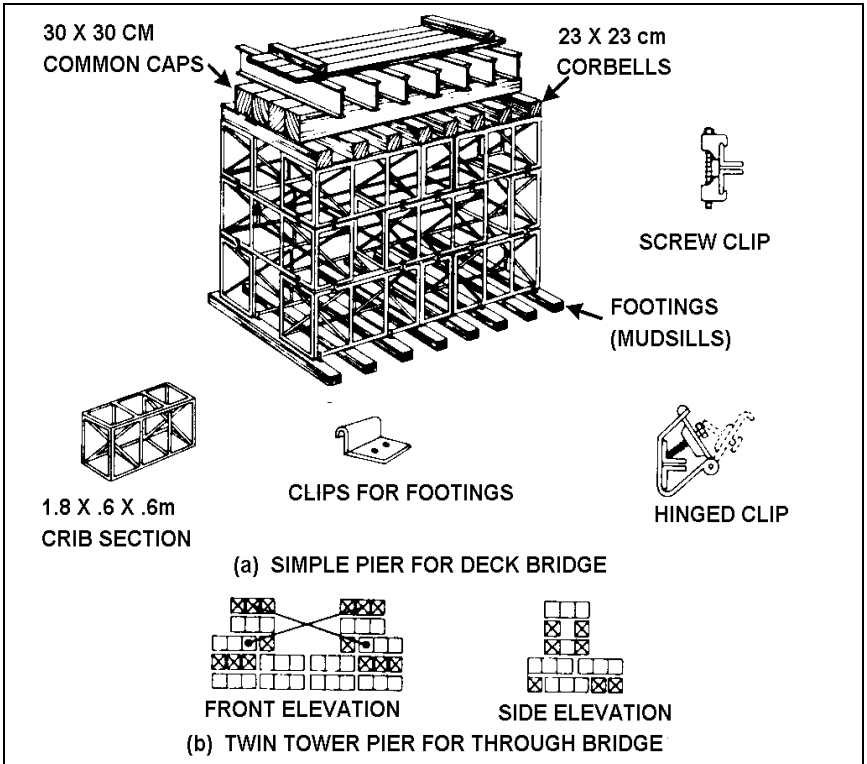

Fig 14-2-2 Piers of Steel Bridging Cribs
2. **Steel Cribs.** Fig 14-2-2 shows the standard equipment 18 tonnes (Christchurch) bridging crib and a simple pier built of such cribs. The permissible load is 4.5 tonnes on a panel point, therefore a total of 18 tonnes is permitted on the end of a crib standing upright or 36 tonnes on the side of a crib used horizontally. A 18 tonne steel bridge crib weighs approximately 90 kg (200 pounds). Points to note in construction are:
- c. the pier finishes in two towers to take the baseplates of a through bridge and sway bracing is essential. The clips are not designed to maintain rigidity (Fig 14-2-2).